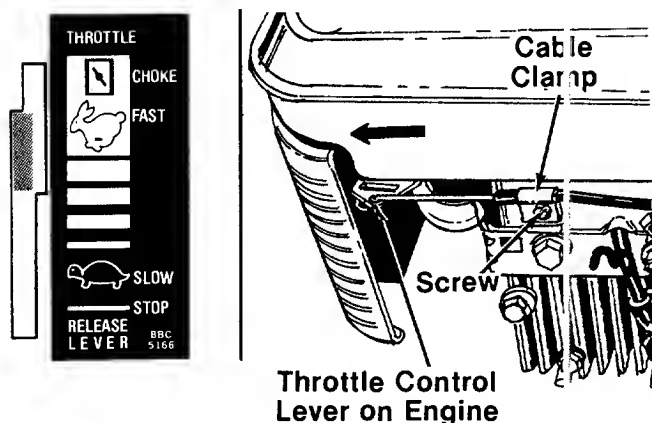

FIGURE 8.
12. Move throttle control lever on handle forward until it stops in "Fast" position. (**Do not** push all the way forward to "Choke" position.) See figure 8.
13. Slide the throttle control lever on the engine as far toward the outside of the engine as it will go **easily** as shown in figure 8. (**Do not** force it into the extreme outside position, which is the "Choke" position.)
14. The throttle control cable is attached to the upper handle. Hook the "Z" end of the throttle control cable into the hole in the control lever on the engine. See figure 8.
15. Loosen the screw on the cable clamp shown in figure 8. Slip the control casing under the clamp. With the throttle lever on the engine still in the "Fast" position, tighten the screw to secure the throttle control cable. Be certain the clamp is positioned so it holds the cable in a straight line, parallel to the engine shroud.